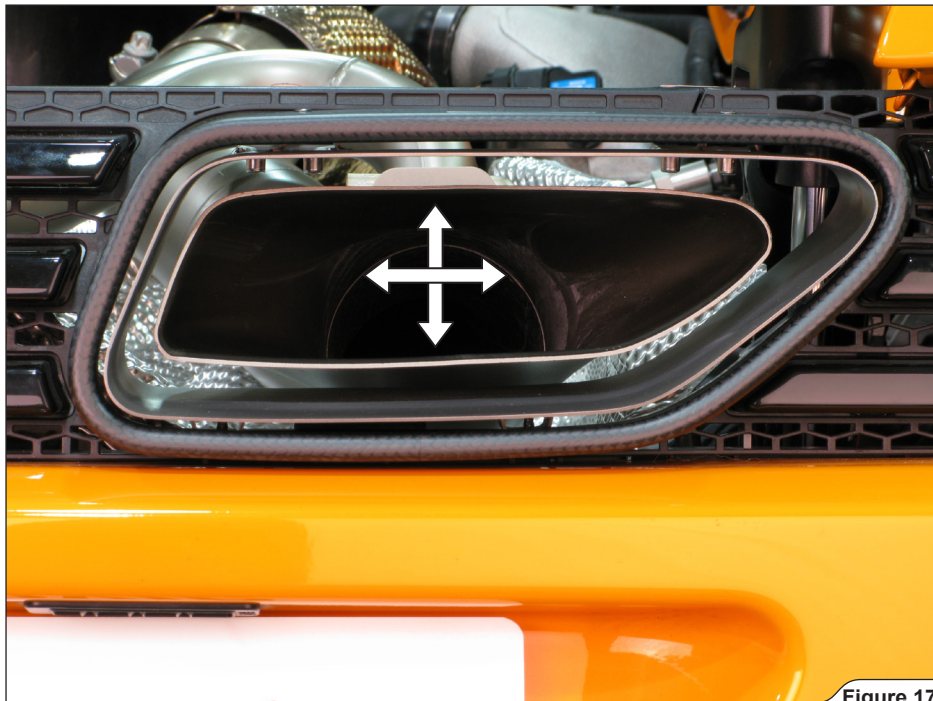

Figure 17
7. Adjust and center the muffler in respect to the tail pipes and tighten the muffler's rear brackets and clamps to the specified torques (**Figure 17, 18, 19**).